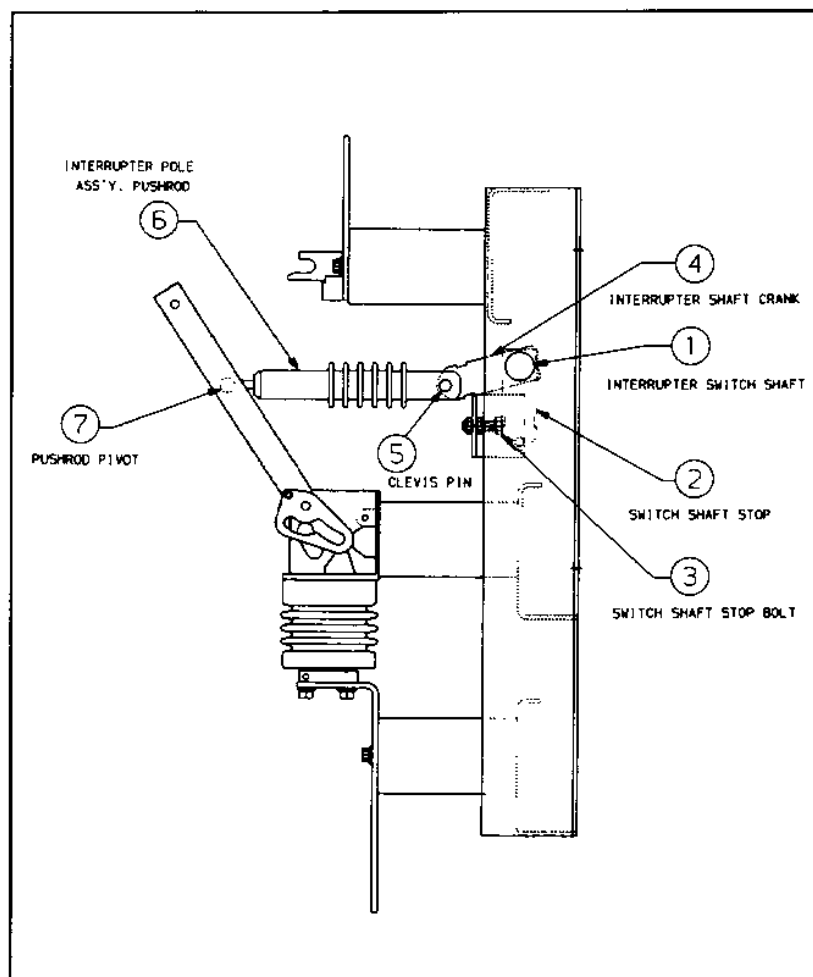

Figure 10
2. During trip latch adjustment, if the interrupter switch shaft stop (#2, Figure 10) is against the interrupter switch shaft stop bolt (#3, Figure 10) adjust the stop bolt "in" until the switch shaft stop is not touching. (Leave approximately .06" clearance).
f. Any adjustment of the mechanism/operator turnbuckle will require re-adjustment of the trip latch and output shaft stop bolt (#3, Figure 10). Reference adjustment "d" above.
e. Figure 10, Disconnect all three interrupter pole assembly pushrods (#6) from interrupter shaft cranks (#4) by removing cotter key and clevis pin (#5).
g. Figure 10, Adjust one interrupter switch pole assembly pushrod #6 until approximately three (3) threads extend through the pushrod pivot #7.
h. Rotate interrupter switch shaft (Figure 10) #1 and reconnect previously adjusted pole assembly pushrod #6 to shaft crank using clevis pin and cotter key (#5).
j. Figure 10, Adjust the two remaining pushrods (#6) until holes in pushrods line up with holes in shaft cranks (#4)
k. Figure 10, Reconnect pushrods to shaft cranks using clevis pins and cotter keys (#5). (NOTE: Clevis pins should be loose to turn.)
o. Figure 10, With interrupter switch "open", set distance between interrupter switch shaft stop (#2) and switch shaft stop bolt (#3) to approximately .06".